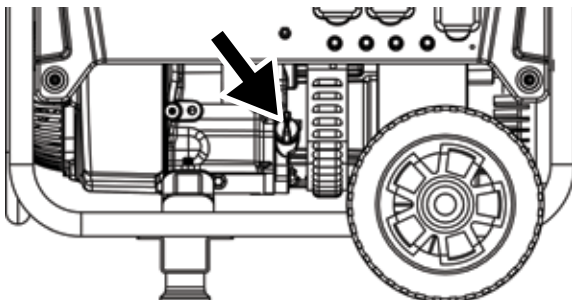

Figure 23 - Oil Fill Plug/Dipstick
5. Remove oil fill plug/dipstick (see Figure 23 below).